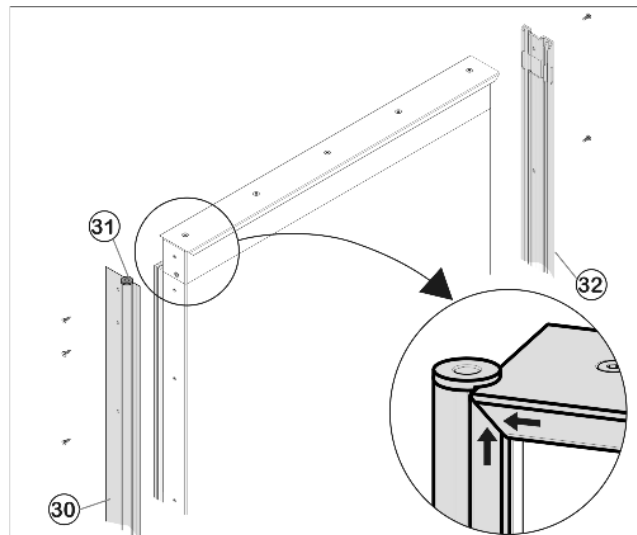

Fig. 30
- ▶ Unscrew the part of the frame that is on the hinge side *Fig. 30 (30)*. Ensure that the top and bottom bushes *Fig. 30 (31)* do not fall out.
- ▶ Unscrew the part of the frame that is on the handle side *Fig. 30 (32)* and screw it onto the opposite side. Do not overtighten the screws!
- ▶ Unscrew the part of the frame that is on the hinge side *Fig. 30 (30)* and screw it to the opposite side. Do not overtighten the screws!